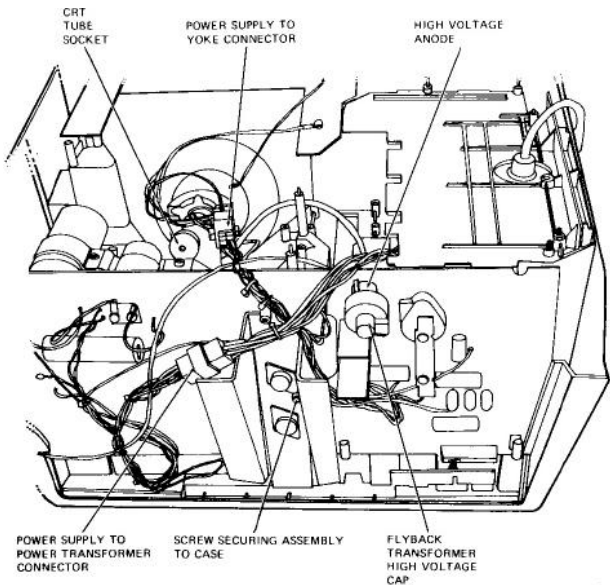

Figure 3-8 Removing and Replacing the Power Supply/Monitor Assembly
10. Remove the 1/4 inch self-tapping screw that secures the power supply/monitor assembly to the terminal (Figure 3-8).